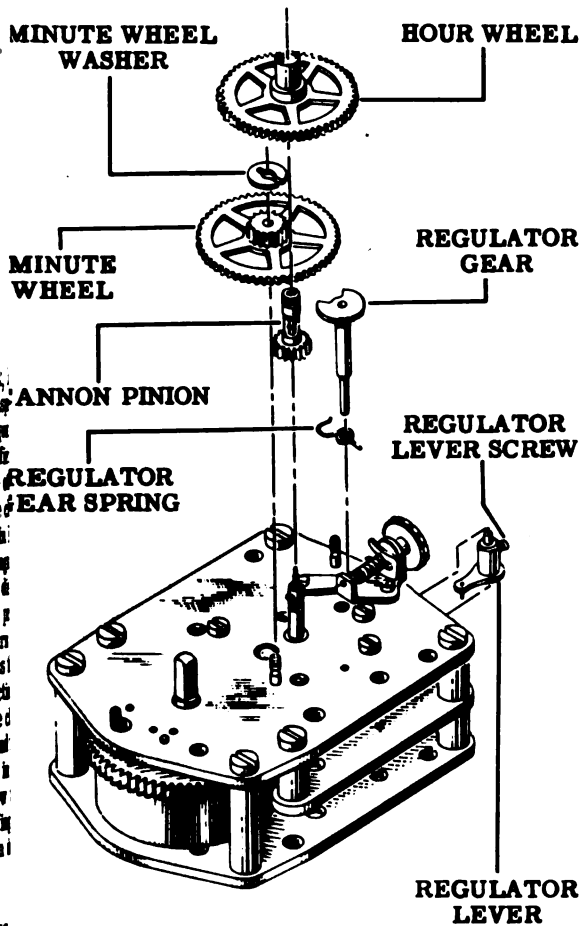
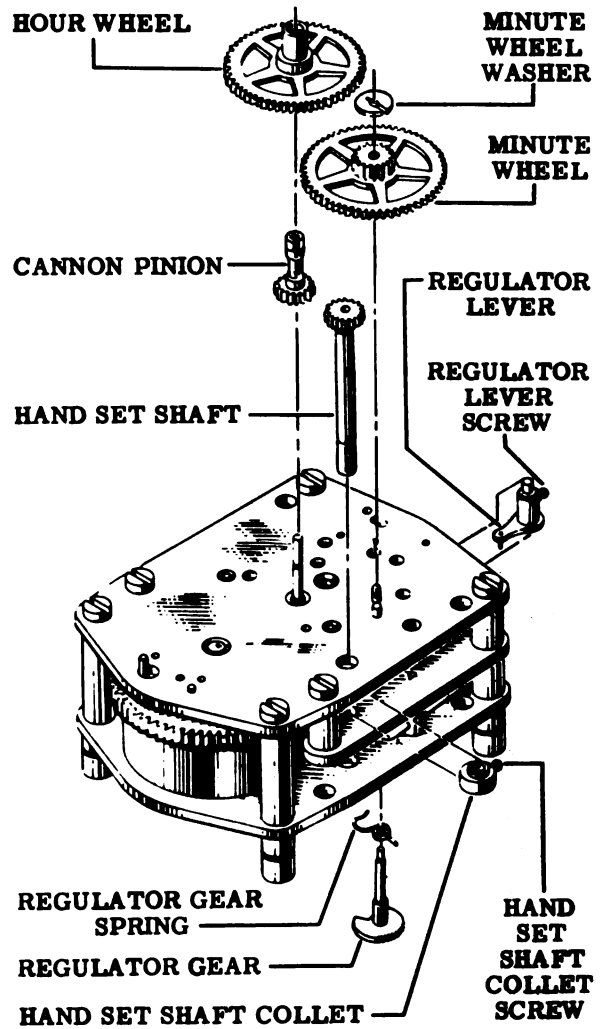

Figure 35—5165 Mechanical Clock Movement
Figure 36—5189 Boat and Deck Clock Movement
2. Place the movement dial side up on the movement work block, Tool No. 1B. Remove the minute wheel washer by spreading its slot with a screwdriver. Lift off the hour wheel and the minute wheel. See Fig. 35.
A. If there is any damage in the hand-set shaft components in Boat and Deck Clock Movements, these parts should be removed at this time. For purposes of cleaning, they may be left in position attached to the front plate. In order to remove the hand-set shaft and collet, loosen the collet screw and pull out the hand-set shaft and pinion through the front plate. Remove the collet. See Fig. 36.
time. However, for ordinary cleaning purposes, these parts may be left mounted in position. To remove the regulator gear, loosen the regulator lever screw (see Fig. 35), pull out the regulator gear along with the regulator gear spring. See Fig. 36. Remove the now loose regulator lever from between the back plate and the train plate.